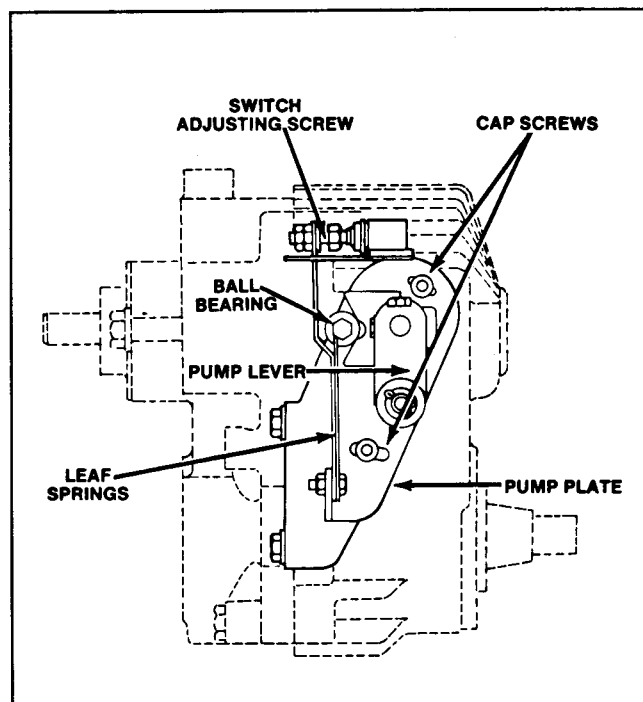

Figure 17
2. Actuate the pump lever (foot pedal) to make sure that the neutral return assembly is properly connected and operates freely; the ball bearing must follow the V-shaped notch in the pump lever (Fig. 17).
8. Should the front wheels continue to rotate or the machine "creep" after a proper adjustment has been made, check for the following (Fig. 17):